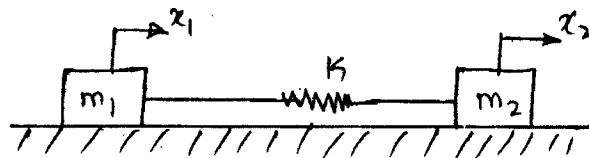

Fig. Q6 (b)
- b. Solve the problem shown in Fig. Q6 (b).  $m_1 = 10 \text{ kg}$ ,  $m_2 = 15 \text{ kg}$  and  $K = 320 \text{ N/m}$ . (14 Marks)